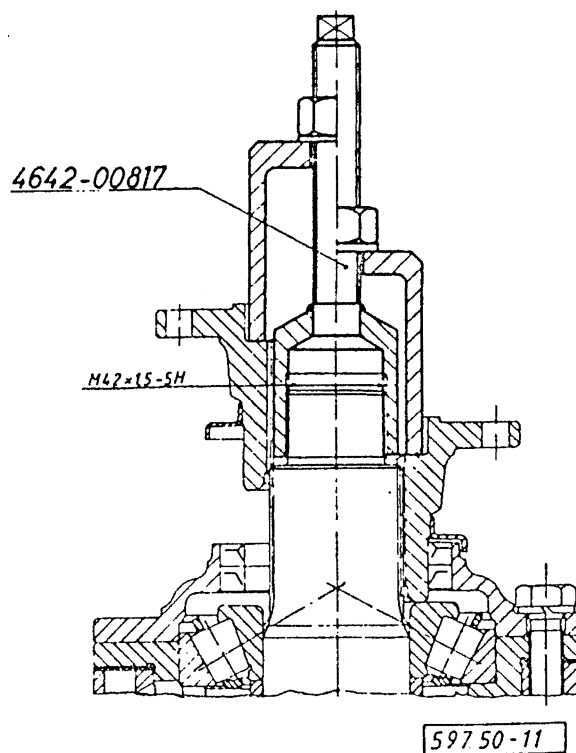

Fig. 2.: PRESSING ON THE COMPANION FLANGE
By means of the tool shown press the companion flange (3) to the drive pinion splines to bottom out (Fig.2.).